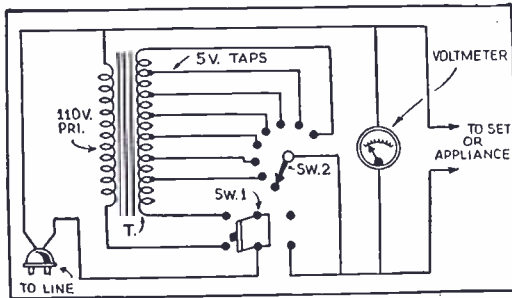

Fig. 1. A line-voltage booster which permits the radio set to work in spite of low voltage.
**Line-Booster Transformer.** In locations where the line voltage drops 10 or more volts during the hours of peak load, radio receivers and some other appliances do not function properly. A booster transformer can be added to the line circuit feeding the individual appliance and thus step up the voltage. Such a scheme is shown in Fig. 1. The transformer T should have a rating in watts equal to, or greater than, the appliance to which it is connected. The transformer should have a 110-V. primary and a secondary tapped in 5-V. steps. The